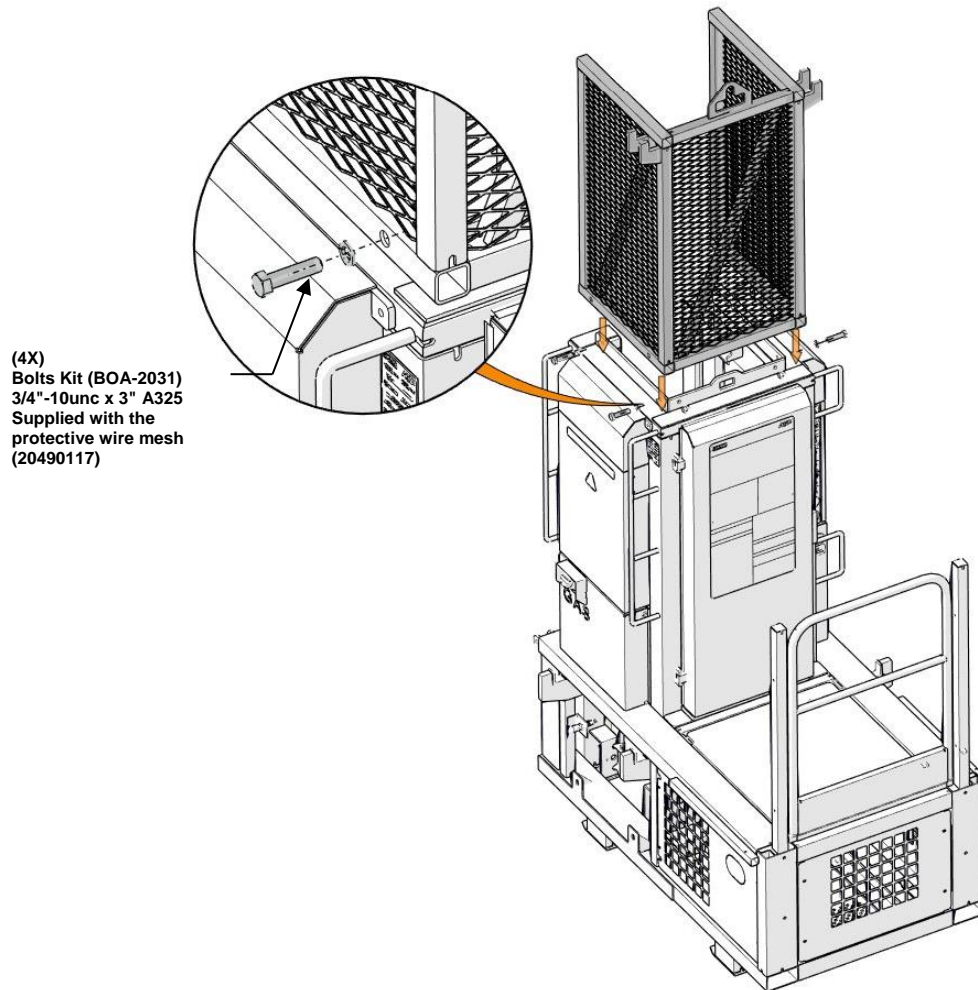

Figure 79 - protective wire mesh
- Finally lower the platform to the ground and install your bridge and extension sections in accordance with the installation instructions defined in **Chapter D**. Complete the platform installation (add fittings, guardrails and other remaining accessories...) and install the protective mesh on the lifting unit (See Figure 79).
- With the platform still at ground level, install your bridge and extension sections in accordance with the installation instructions in **Chapter D**. Complete the platform installation (add fittings, guardrails and other remaining accessories...) and install the protective mesh on the lifting unit (See Figure 79).
- Finally lower the platform to the ground and install your bridge and extension sections in accordance with the installation instructions defined in **Chapter D**. Complete the platform installation (add fittings, guardrails and other remaining accessories...) and install the protective mesh on the lifting unit (See **Figure 79**).
- With the platform at ground level, install your bridge and extension sections in accordance with the installation instructions in **Chapter D**. Complete the platform installation (add fittings, guardrails and other remaining accessories...) and install the protective mesh on the lifting unit (See Figure 79).
- Remove the protective wire mesh (see Figure 79).